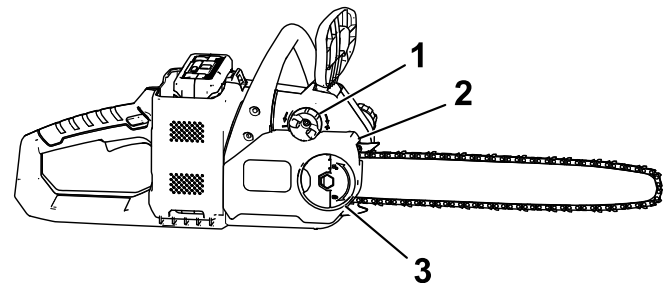

Figure 29
5. Tighten the wing nut until it is snug (Figure 29).
2. Remove the wing nut that secures the cover (Figure 29).
3. Loosen the chain by turning the chain-tightening screw counterclockwise (Figure 29).